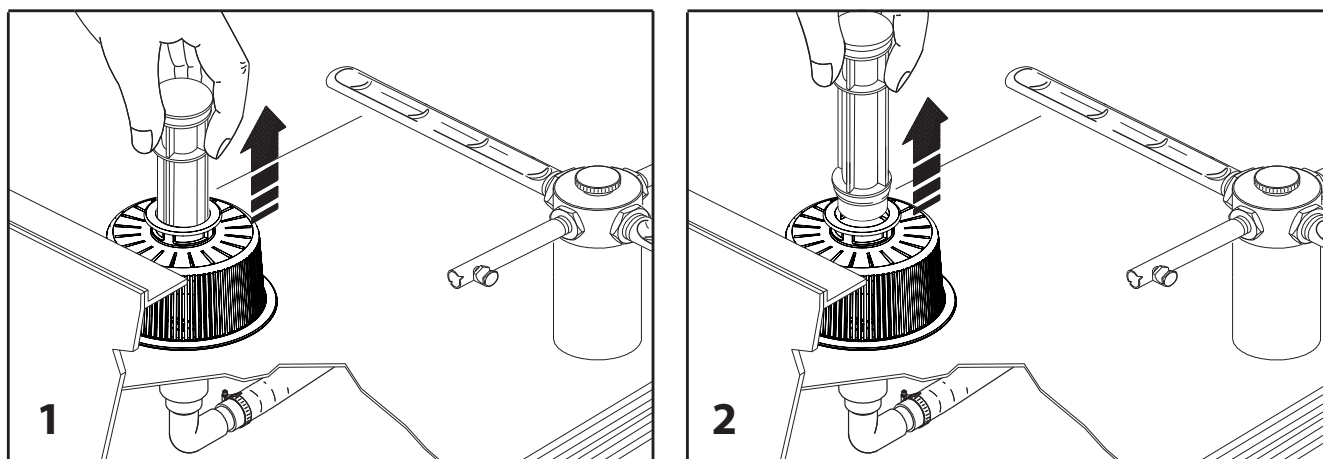

Fig. 16
5. Remove the overflow pipe (fig. 16)